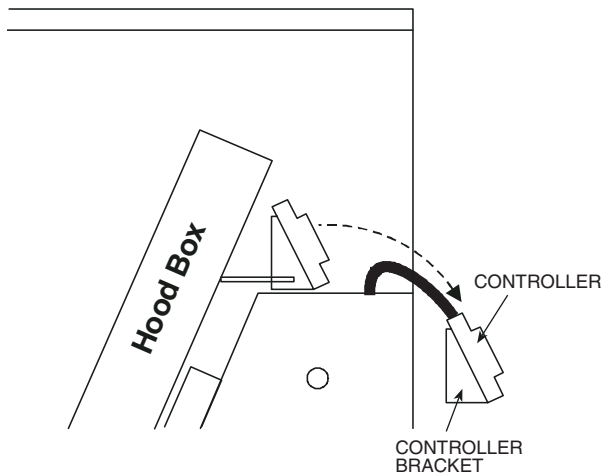

Fig. 22 — Temporary EconoMi\$er2 Controller Relocation
- a. Remove the screws holding the controller bracket in place. Save screws. Temporarily lower the controller. See Fig. 22. Do not disconnect the controller wiring.
- b. Remove the screw holding the hood box bracket to the top of the EconoMiSer2. Slide the hood box out of the unit. See Fig. 22 and 23.